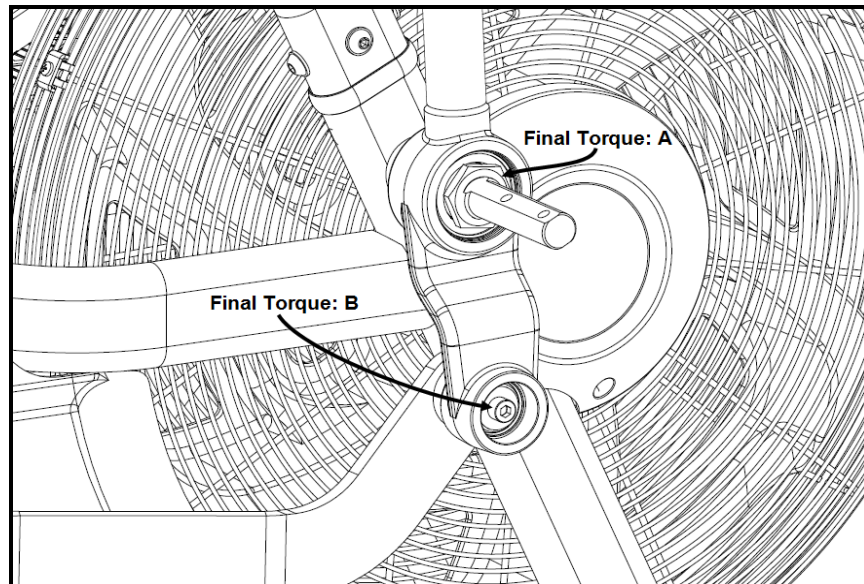

Fig. 7
7. Reverse steps 6-4 to mount the new arm and verify the required final torque (Fig. 7) is applied to the jam nut securing the arm to the pivot shaft and socket head screw mating the arm to the crank link arm.